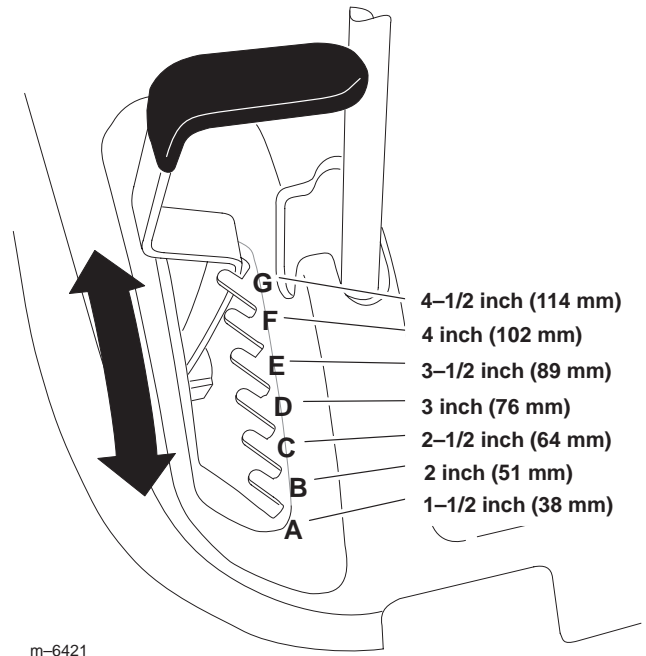

Figure 10
1. Raise the height-of-cut lever to the transport position (also the 4-1/2 inch (114 mm) cutting height position) (Fig. 10).
2. To adjust, pull up on the height-of-cut lever and move it to the desired position (Fig. 10).